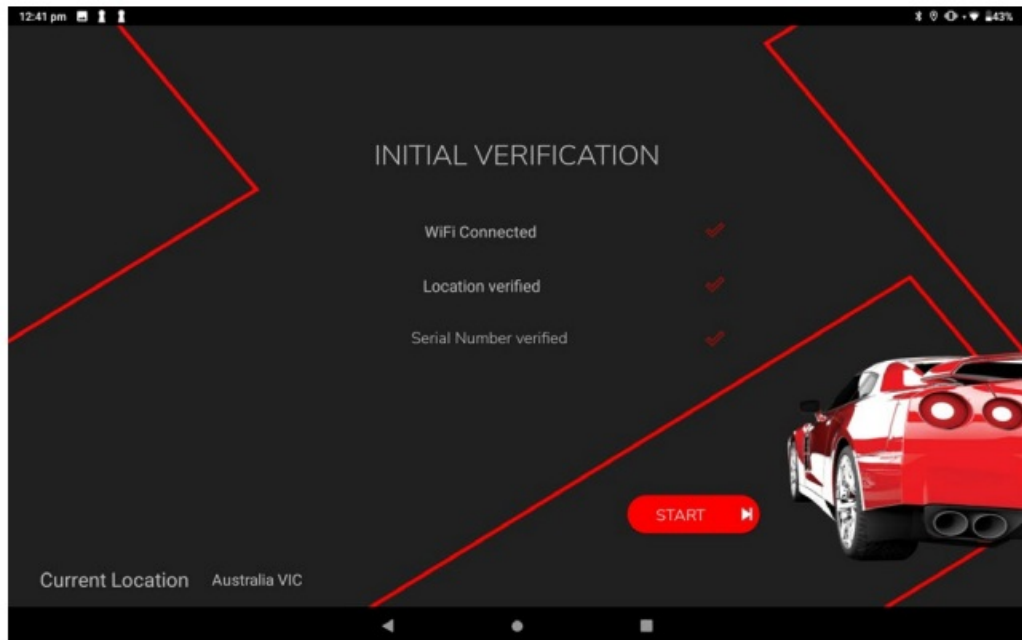

Figure 12
- **Step 8.** The screen will display initial verification checks for Wi-Fi connection, location, and serial number. Once verified, press “START.” (Figure 12)